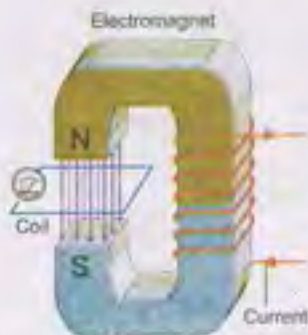

Fig. 15.6
- It is also possible to link the changing magnetic flux with a coil by using an electromagnet instead of a permanent magnet. The coil is placed in the magnetic field of an electromagnet (Fig. 15.6). Both the coil and the electromagnet are stationary. The magnetic flux through the coil is changed by changing the current of the electromagnet, thus producing the induced current in the coil.